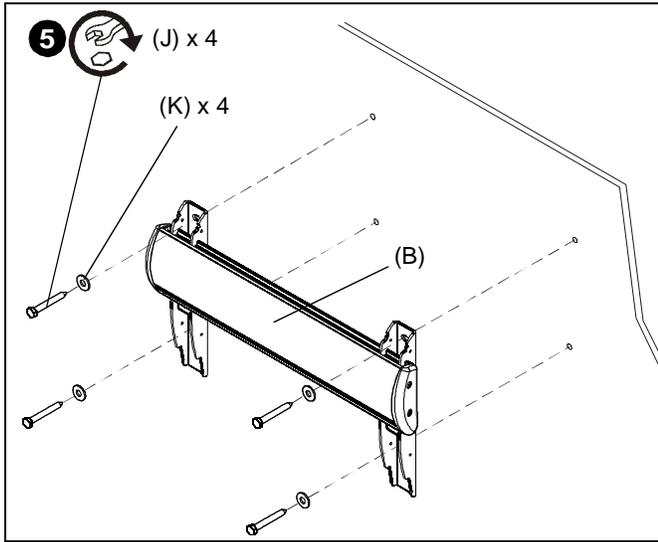

Figure 4
5. Install four 5/16 x 2-1/2" hex head lag screws (J) through four 5/16" washers (K), holes of mounting bracket and into drilled holes. (See Figure 4)